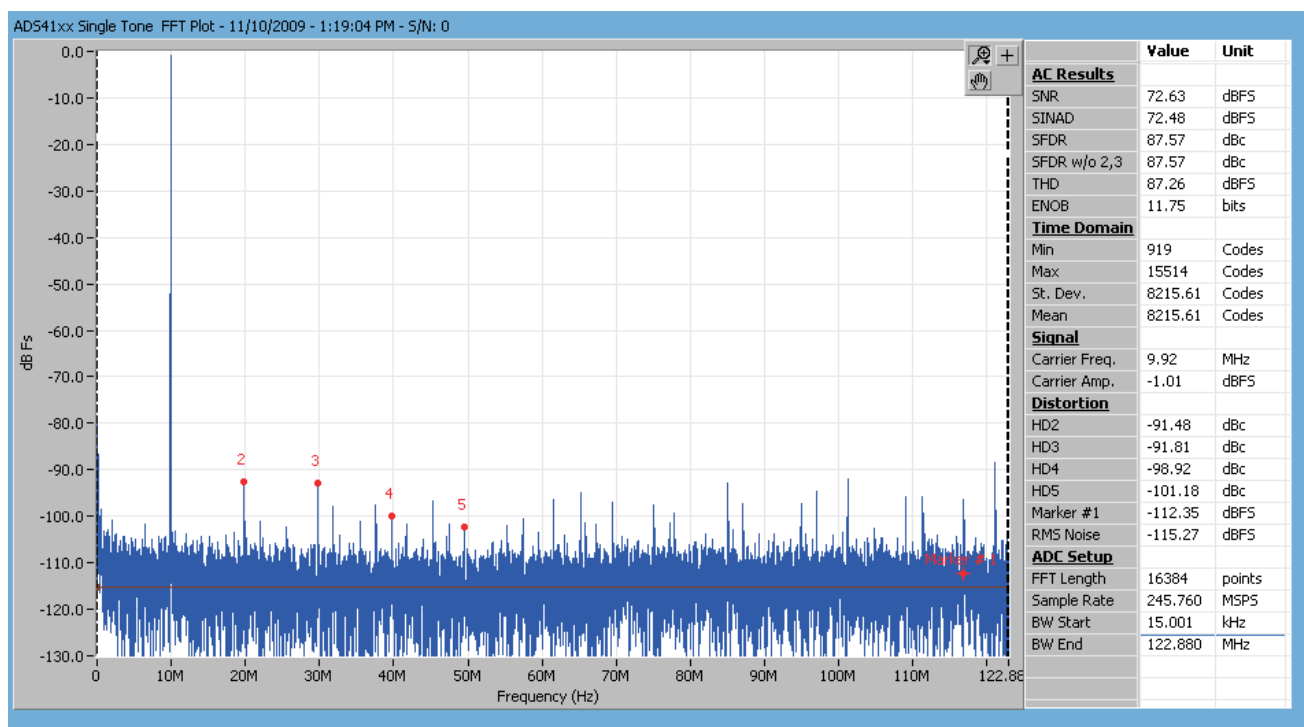

Figure 10. Quick-Setup Test Result.
Option 1 supplies the transformer-coupled input from J6 to ADC. This configuration is the default on the EVM. The test result using this option is shown in Figure 10. A double-transformer input circuit is used to provide better differential to single-ended conversion than a single transformer can provide. The transformers used are both of a 1:1 turns ratio, so termination of the 50-Ω input signal path after the transformers can be two 25-Ω resistors terminated to the common-mode voltage (VCM) provided by the ADC.
5. Measurement is illustrated in Figure 10.
The user can make the jumper setting as mentioned in Table 1. In this configuration, the EVM uses an external clock source from J19 and a direct input signal J6 to the ADC. This setup uses Power Option 2 (Table 3), Clock Option 1 (Table 5), and Analog Input Option 1 (Table 7), which is the default on the EVM. Figure 10 shows the ADC performance capture using TSW1200 with the input signal of a 100-MHz frequency and clock frequency of 245.76 MHz with ADS4149.